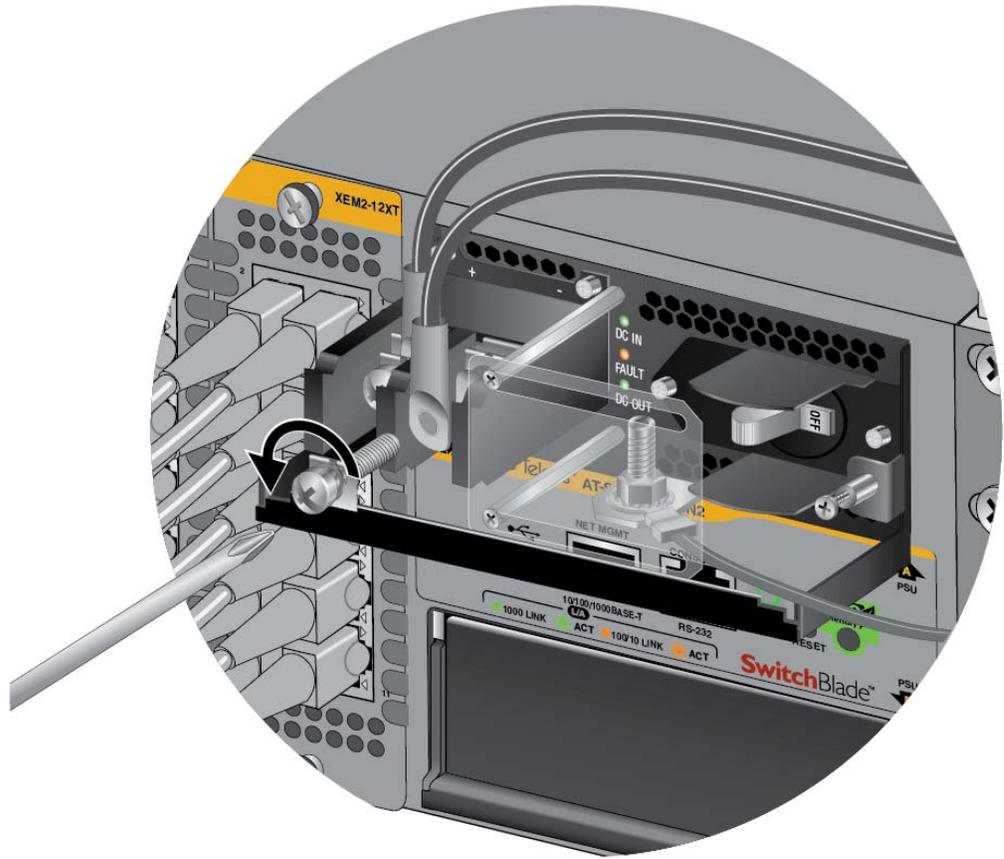

Figure 114. Removing the Negative Lead Wire
5. Use a #3 screwdriver to remove the negative (-) lead wire from the terminal block. The negative lead wire is on the right. Refer to Figure 114 on page 193.